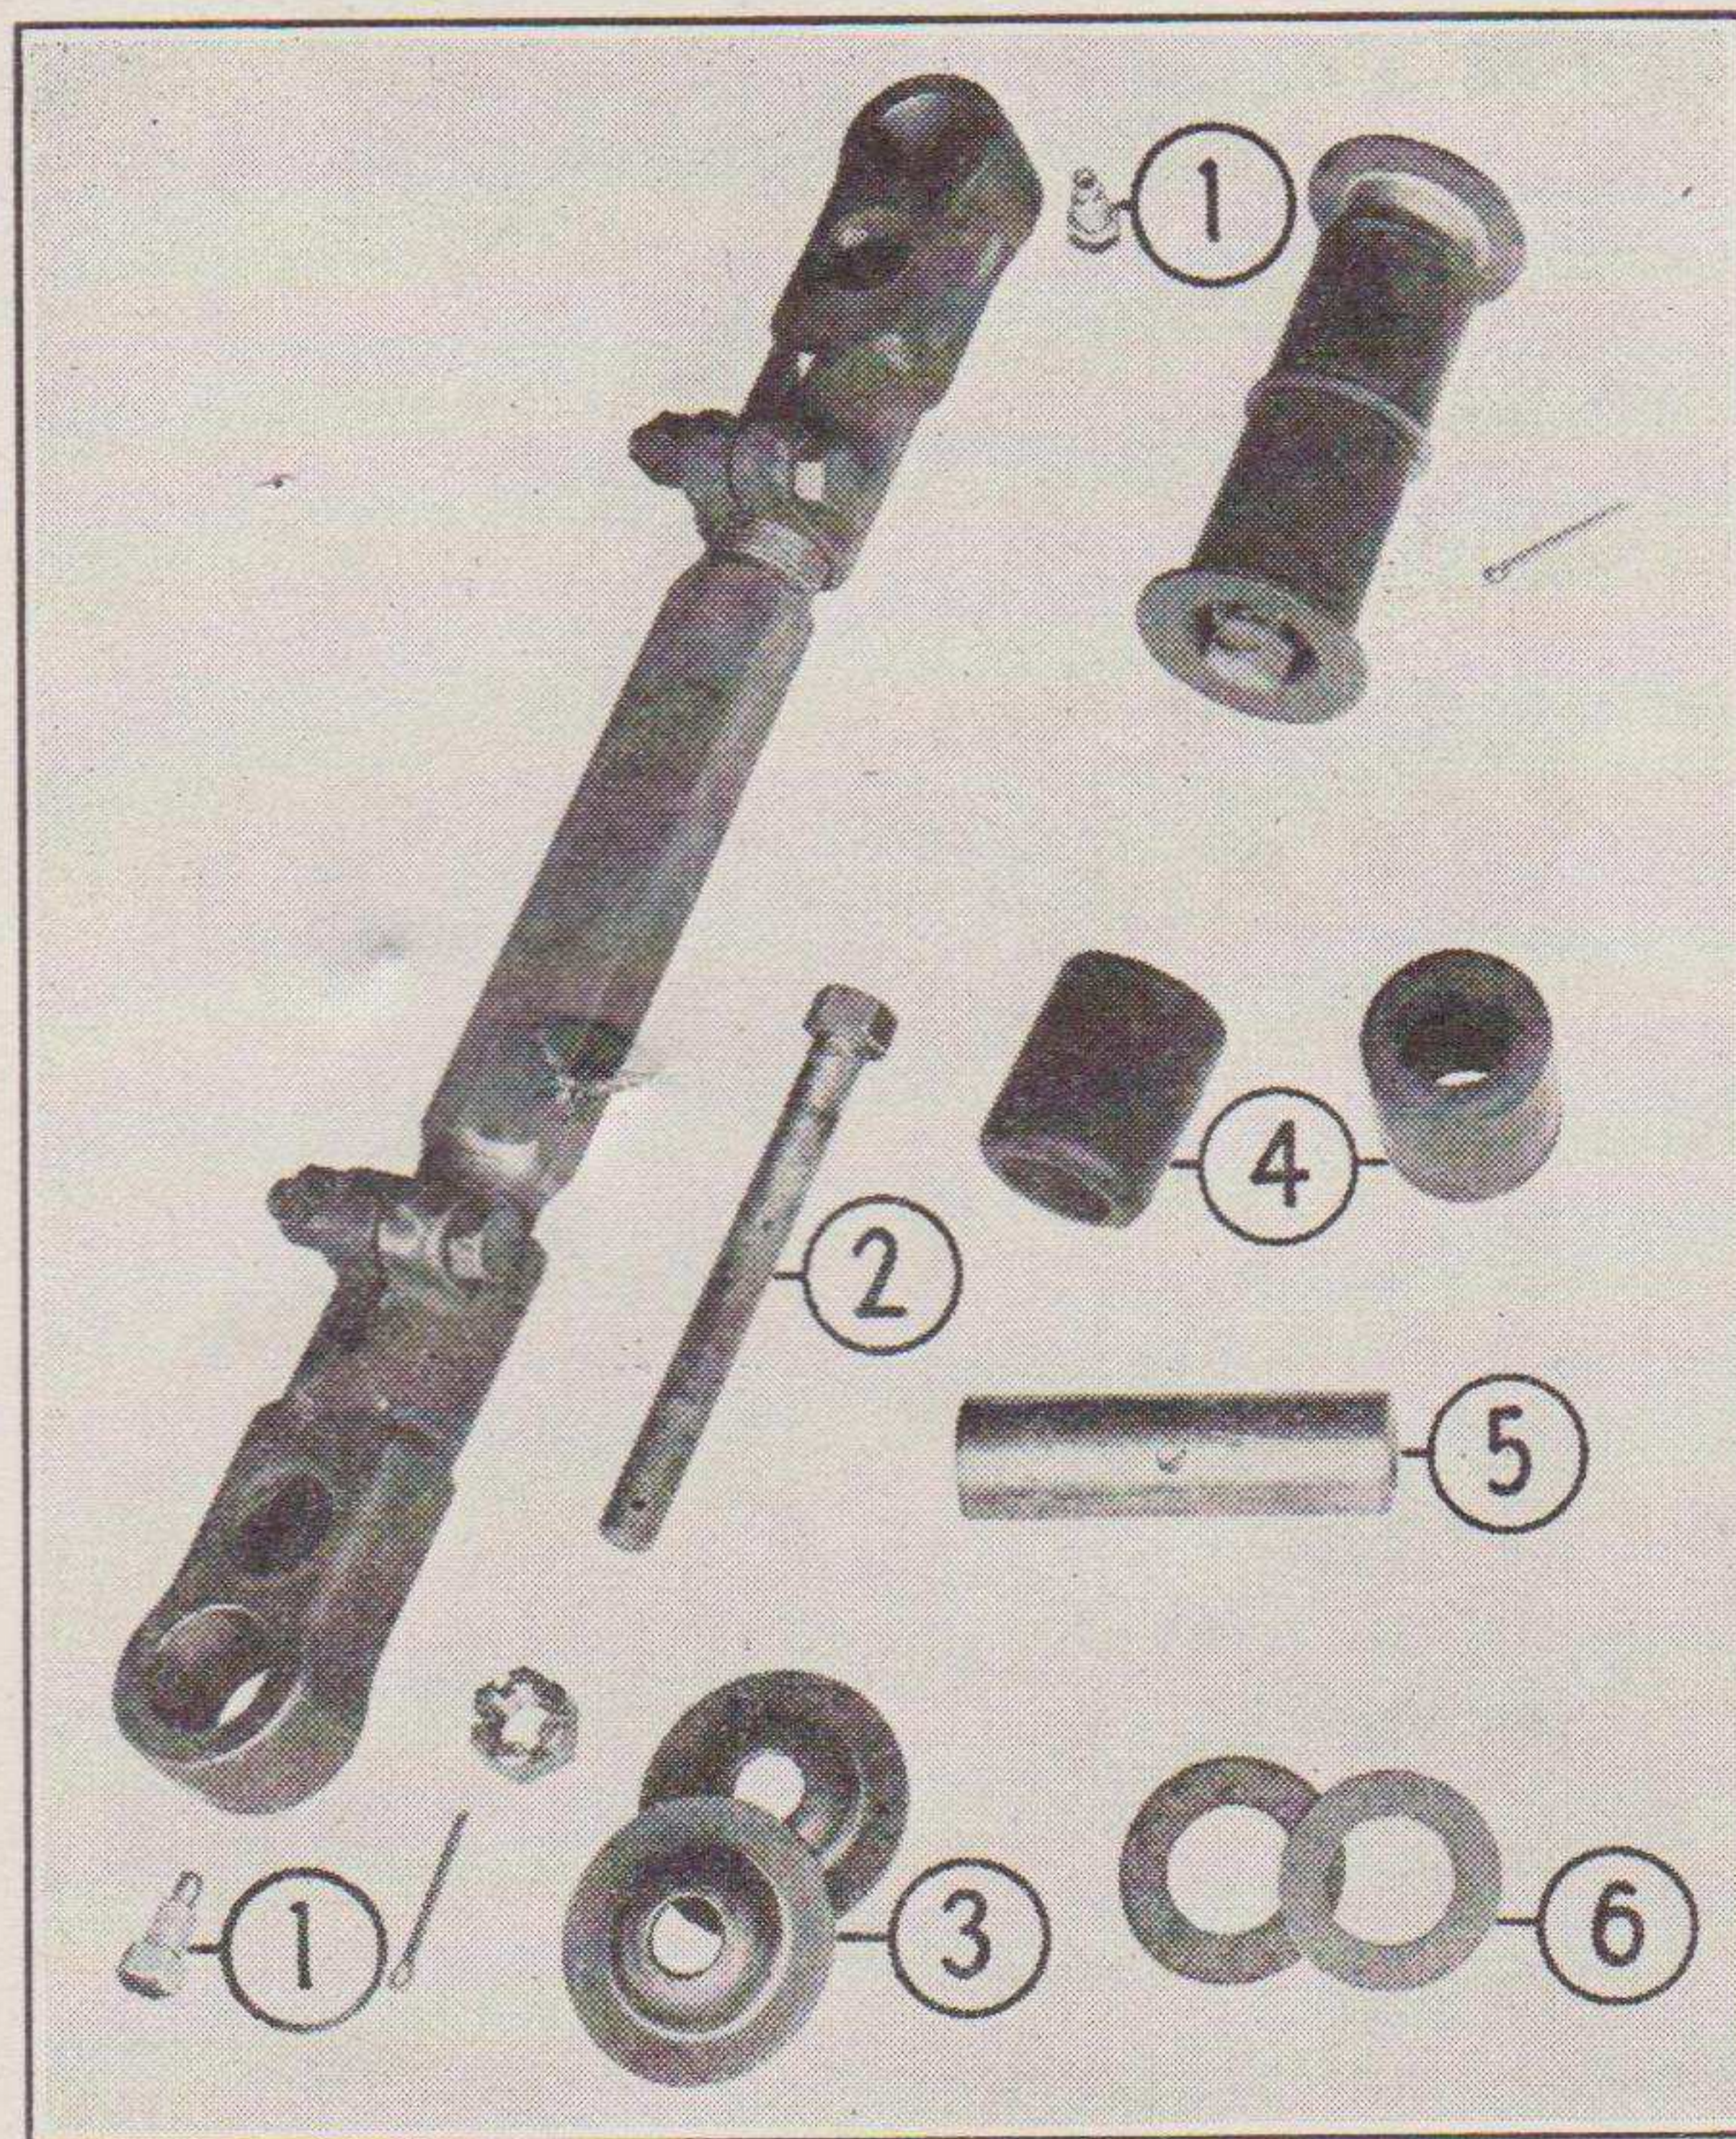

FIGURE 36. RADIUS ROD ASSEMBLY
8. REPLACEMENT OF RADIUS RODS (Refer to Figure 36).—*a.* Remove the set screws (1) and bolts (2) at each end of the rods.
b. Remove the inner and outer washers (3).
c. Tap out the bolts (2) with a 1/2" punch and hammer.
d. Remove the rubber bushings (4) at both ends of the rod. Twist them out, using a pair of pliers.
e. Drive the pins (5) at both ends out, using a hammer and bar. Inner washers (6) will fall out.